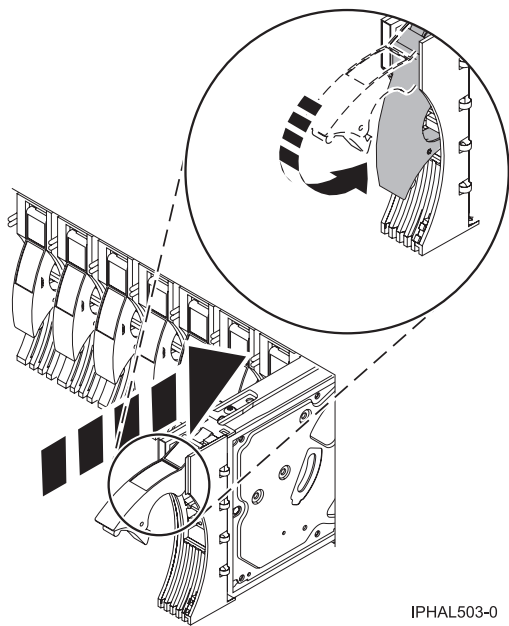

Figure 26. Installing a disk drive in a model
18. Slide the disk drive into the system unit until it stops, as shown in Figure 26 on page 38.